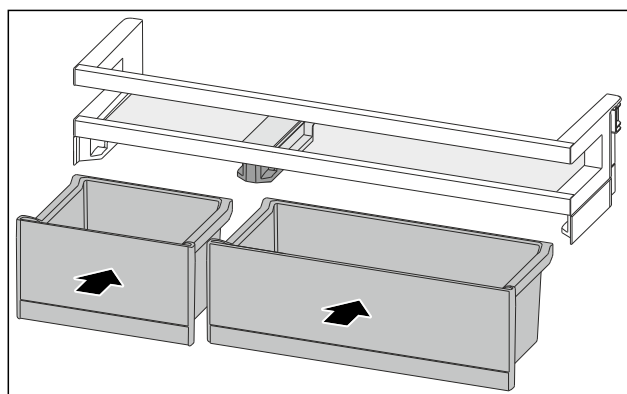

Fig. 89
- ▶ Insert the VarioBoxes in reverse order. (see Fig. 89)